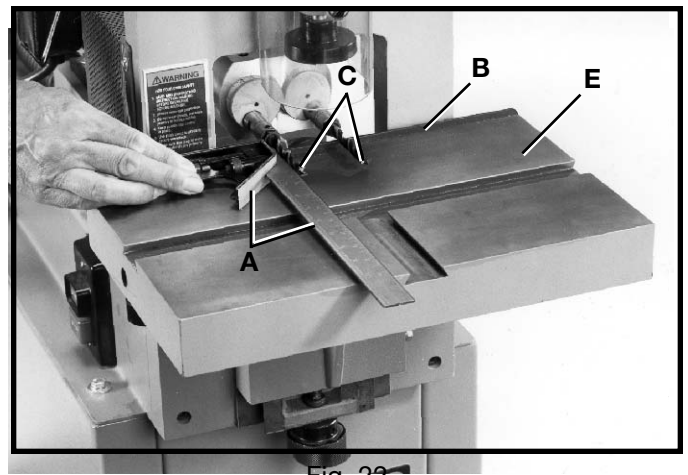
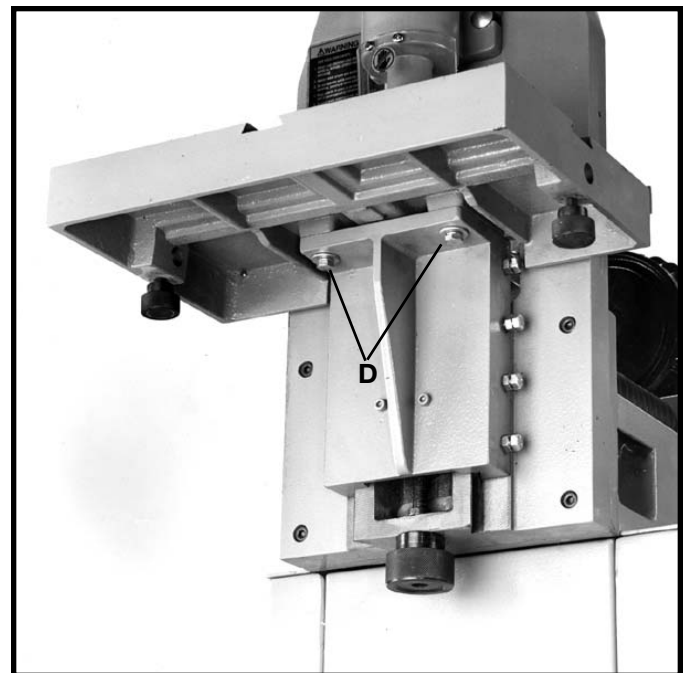

Fig. 22
Fig. 23
3. Place a square (A) Fig. 22, against rear fence (B) and drill bits (C) as shown and check to see if the table is aligned 90 degrees to the drill bits.
4. If an adjustment is necessary, loosen two screws (D) Fig. 23, and align table (E) Fig. 22, so it is 90 degrees to drill bits (C). Tighten two screws (D) Fig. 23, after adjustment is made.